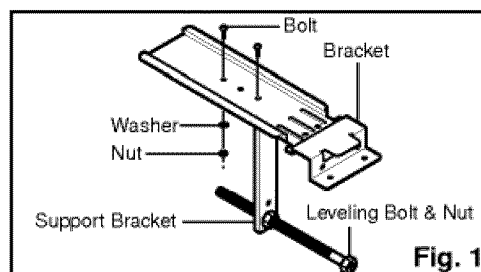

Fig. 1
- Loosely attach the Support Bracket to the bottom of Bracket using Bolts, Washer, and Nuts. Attach the Leveling bolt and nut. (Fig. 1)